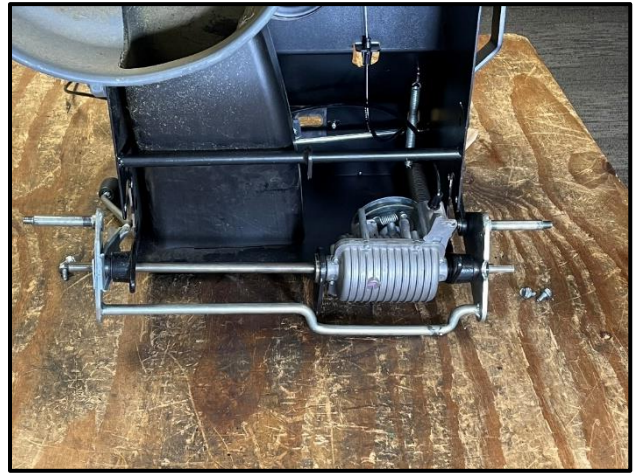

Figure 7
- Slide the whole Axle and Transmission assembly out as one piece. (**Figure 7**).